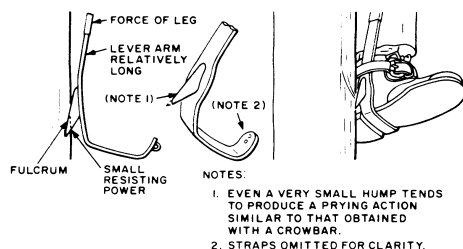

Fig. 12—Gaff Ridge and Point Altered
5.06 Figures 11 and 12 show two of the principal causes of climber cutout due to unsatisfactory gaff conditions. A dull point or dull cutting edges results in insufficient gaff penetration as shown in Fig. 11 causing the resultant cutout. If the straight ridge of the gaff is altered as indicated in Fig. 12, a prying action is produced that will cause climber cutout. Under no circumstances should any part of the gaff be altered by filing. Proper field maintenance of factory shaped gaffs is described in Part 7.